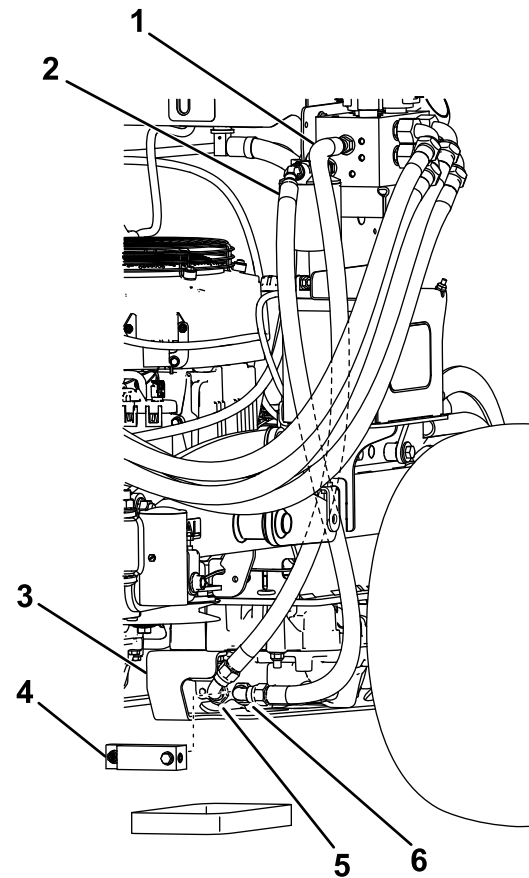
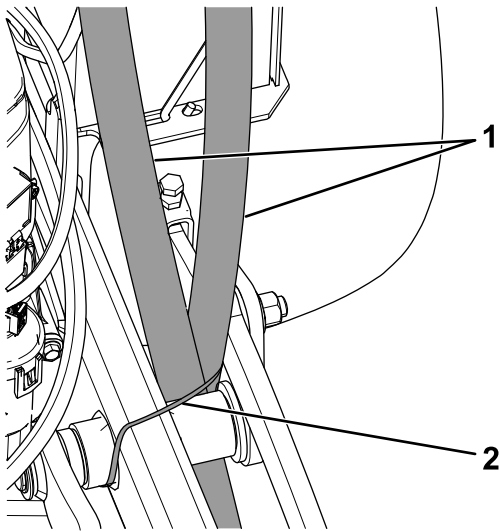

Figure 13
Figure 14
- Place a drain pan under the manifold block of the left hydrostatic drive (Figure 13).
- Remove the manifold block (Figure 13).
- Route the filter hose (short 90° fitting) between the lift arm and frame (Figure 14), and connect it to the outer port on the hydrostatic drive (Figure 13).
9. Route the loose end of the hose in the P port (long 90° fitting) of the manifold between the lift arm and frame (Figure 14), and connect it to the inner port on the hydrostatic drive (Figure 13).
10. Secure the hoses to the frame using a cable tie (Figure 14).